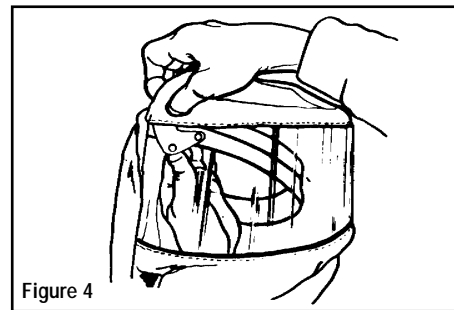

Figure 4
5. Engage four headband snaps into corresponding snap studs mounted in lens (see Figure 4).